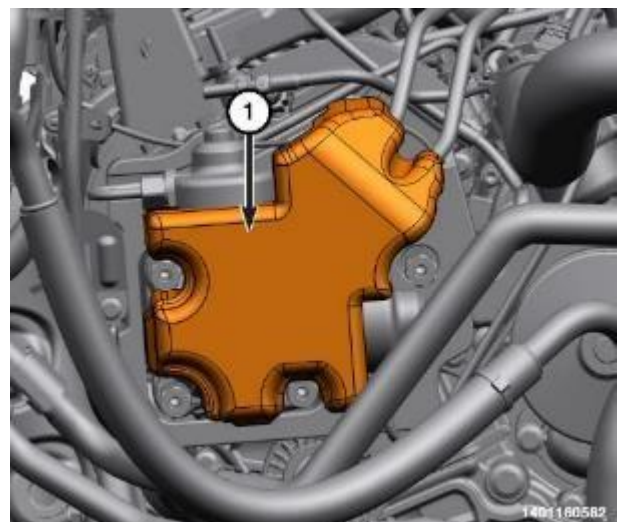

Figure 88 – Pump Silencer
- 177. Install the fuel injection pump silencer (1) (Figure 88).